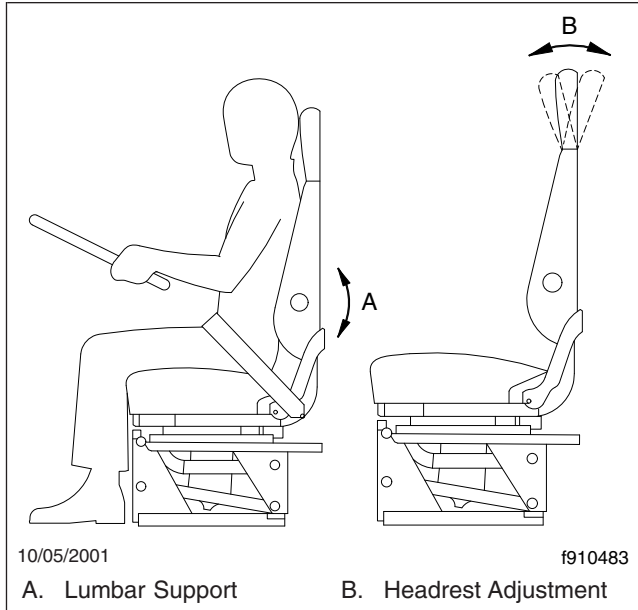

Fig. 5.17, Lumbar Support and Headrest Adjustment
controlled, depending on make and model of the seat. See Fig. 5.17.
4. Headrest: When this adjustment is made, the upper part of the back cushion changes angle to provide head and upper back support. See Fig. 5.17.